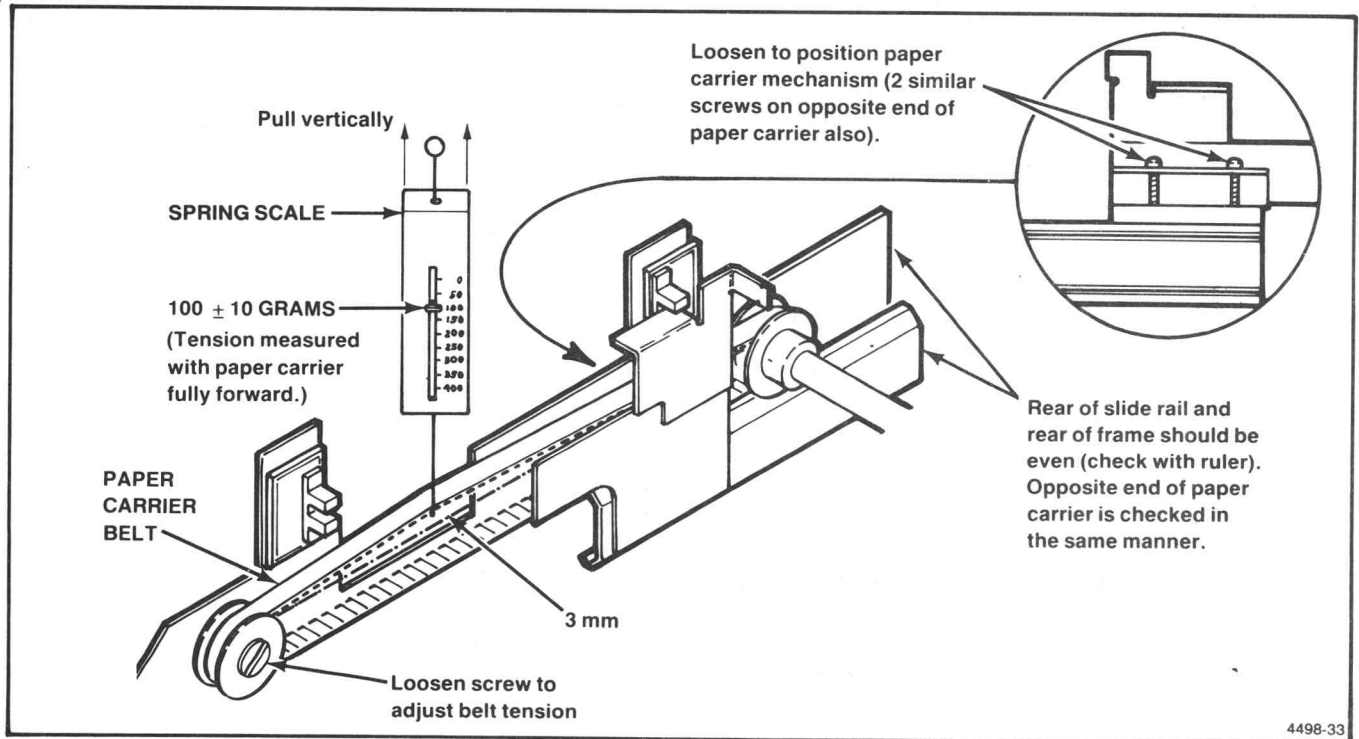

Figure 5-15. Paper Carrier Position and Belt Tension Adjustment.
1. Loosen the two belt-clamp screws that hold the drive belt to the paper carrier on each side of the paper carrier (see Figure 5-15).
2. Slide the paper carrier mechanism rearward until the slide rails are even with the outer edge of the frame (see Figure 5-15).
2. Hook the spring scale on the upper belt near the middle and pull up vertically. The belt tension should be 100 plus or minus 10 grams with 3 mm of belt deflection. If adjustment is required, loosen (do not remove) the screw holding the pulley at the drum end of the belt (see Figure 5-15). Position the pulley to adjust the belt tension. Then, check the belt tension again.